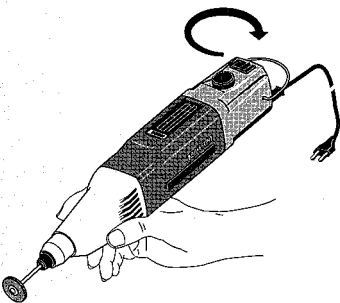

Fig. 3
1. Switch the machine on with the switch 2 (fig. 3) and adjust the speed appropriate for the work with the button (1).
2. For engraving work hold the machine like a ball pen (fig. 3) and do not cover the ventilation slots with your hand.